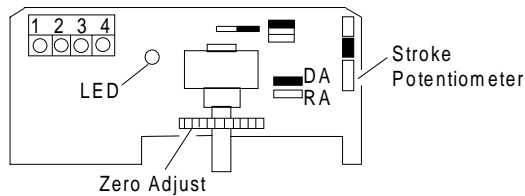

Figure 17: VA-7152 Adjustments
- To ensure that the valve stem is in the full up position, turn the zero adjust knob (shown in Figure 17) completely to the left, until the valve stem reaches the end of stroke.